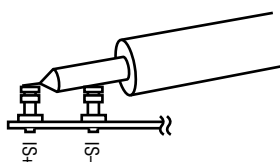

Figure 2. Measuring Voltage Across R25
2. With power off, connect a LED between VOUT and GND or between VOUT and LED-, if fast rise time is to be verified. When returning LED to LED-, R25 needs to be populated. To check voltage across R25, the best set up is to solder a short 50Ω coax cable across R25. Connect the other end of the cable directly into a BNC connector on an oscilloscope. A less perfect but easier set up is to touch the probe tip directly across the IS+ and IS- terminals with out the probe ground wire. See Figure 2 for setup. The latter set up tends to have more noise but is ok for non-critical measurements. The LED connecting wires should be as short as possible, 1 inch total being ideal.